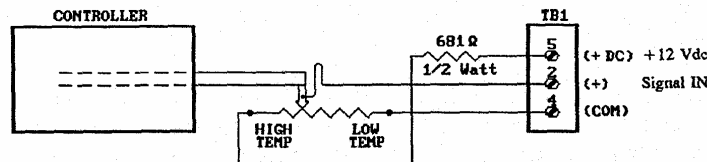

Figure 3-8 Slidewire Control
When connecting a 2Z for control by a temperature-controlled slidewire potentiometer, install a 681Ω resistor in series with the slidewire, as shown in Figure 3-8 (815Ω – 135Ω = 680Ω).
- d. Connect the controller as shown in Figure 3-8.